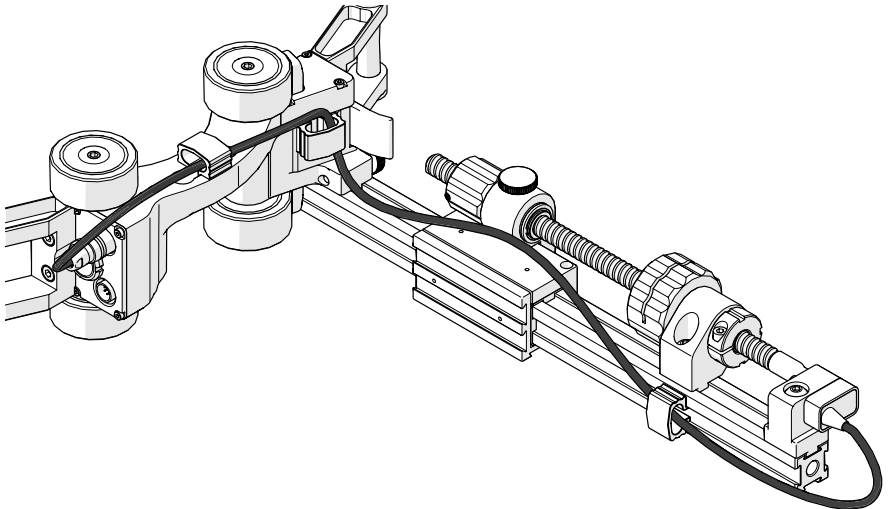

Fig. 67 - Route encoder cable and plug into the low profile link's ENC 1 port
4. Route the encoder cable to the low profile link (*Fig. 67*).
5. Plug the encoder cable into ENC 1 of the low profile link (*Fig. 67*).